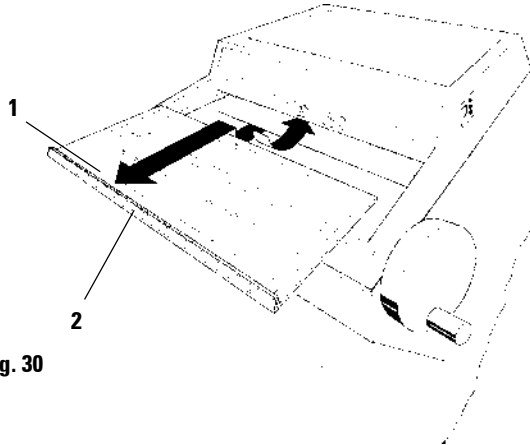

Fig. 30
- Slightly lift the sliding window when closed holding it at the grip provided and pull it out to the front (**Fig. 30**) - see '**9.3.6 Replacement of the lamp**'.